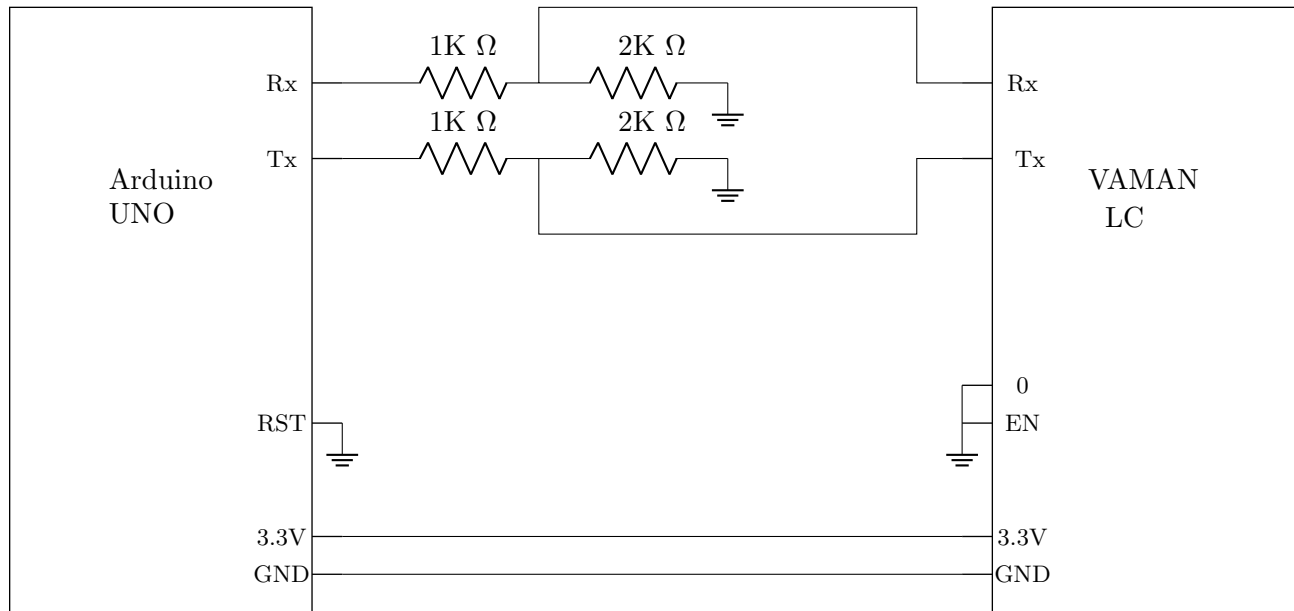

Figure 9.2.1.1: Circuit Connections
9.2.1. Do not power any devices. Make connections as shown in Table 9.2.1.1 and Fig. 9.2.1.1.